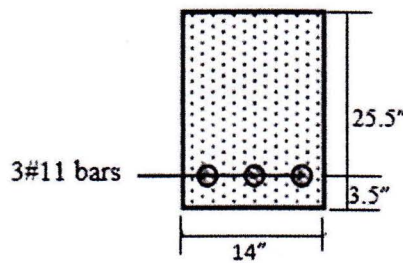

Figure 1
1. For the beam cross section shown in **Figure 1**, determine whether failure of the beam will be initiated by crushing of concrete or yielding of steel. Also, calculate the design moment capacity (M_u) of the beam. Given, $f'_c=7,000$ psi, $f_y=60,000$ psi [8]